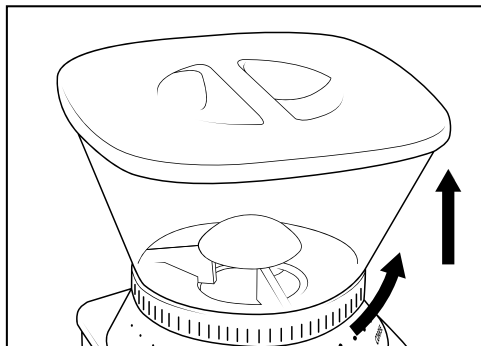

Figure 4
- To remove the bean hopper from the main unit turn it in an anti-clockwise direction until it becomes loose enough to remove. To reinstate, reverse the action (see figure 4).